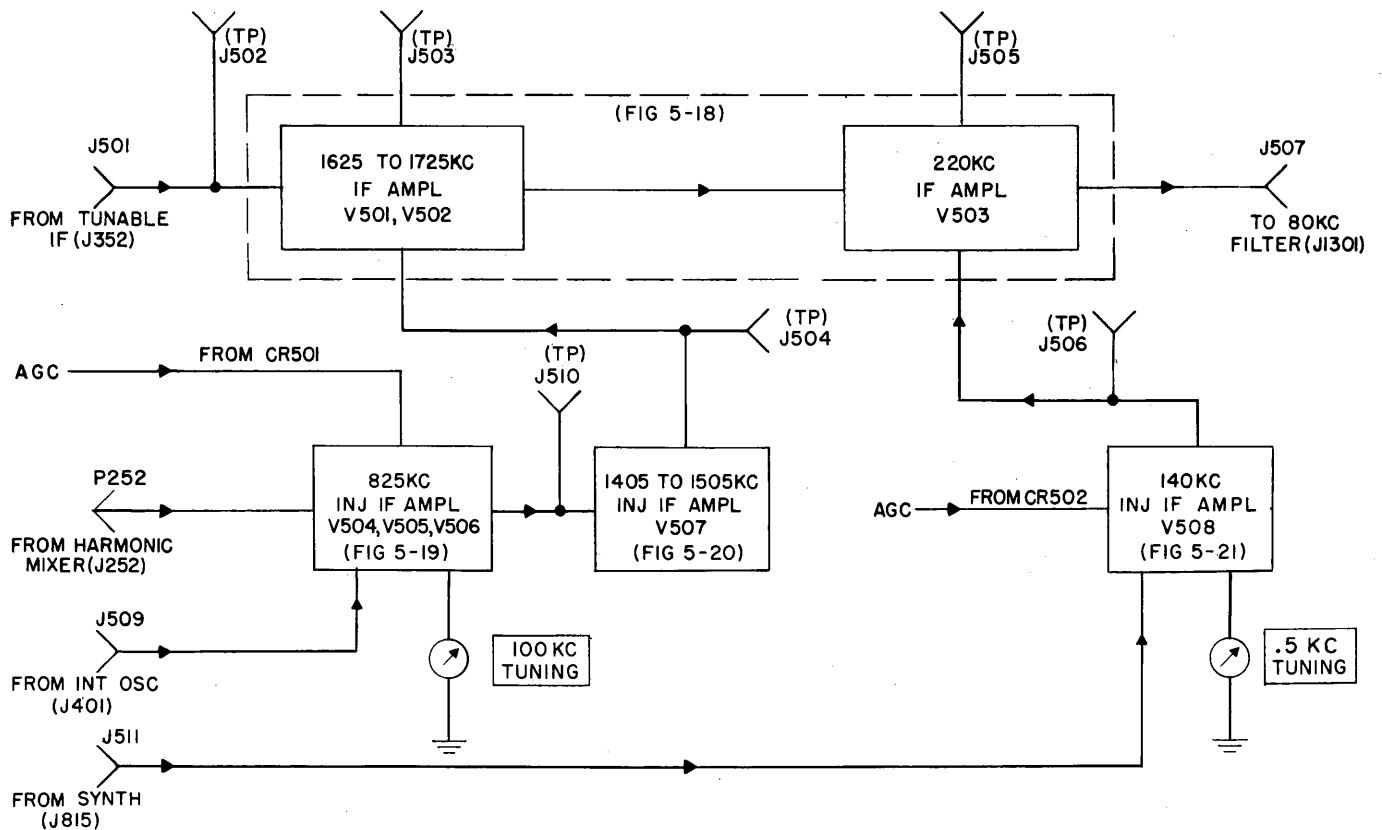

Figure 5-17. Injection IF Amplifier, Functional Block Diagram
a. **DIAGRAMS.**— Figure 5-17 is a functional block diagram of the injection IF amplifier. For a complete schematic diagram, refer to figure 6-16. The following functional schematic diagrams of injection IF amplifier are also provided: